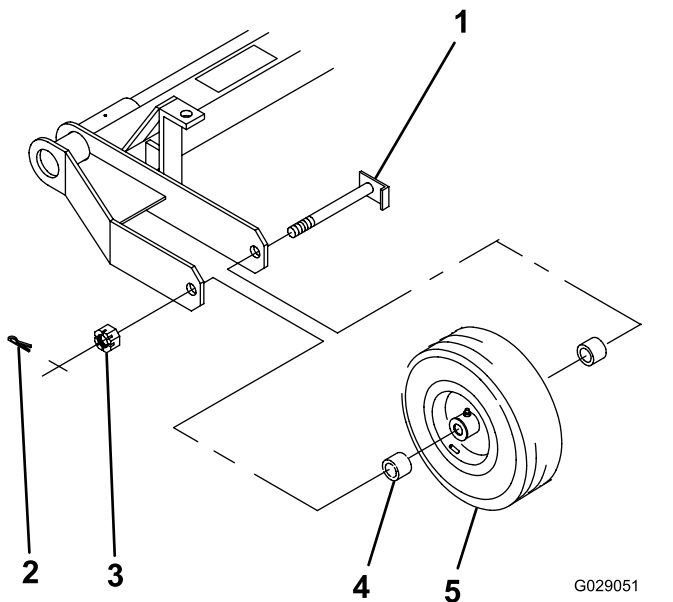

Figure 2
1. Position the wheel assembly and 2 spacers (1 on each side of the wheel hub) between the frame as shown in Figure 2.
2. Insert the axle through the frame, spacers, and wheel (Figure 2).